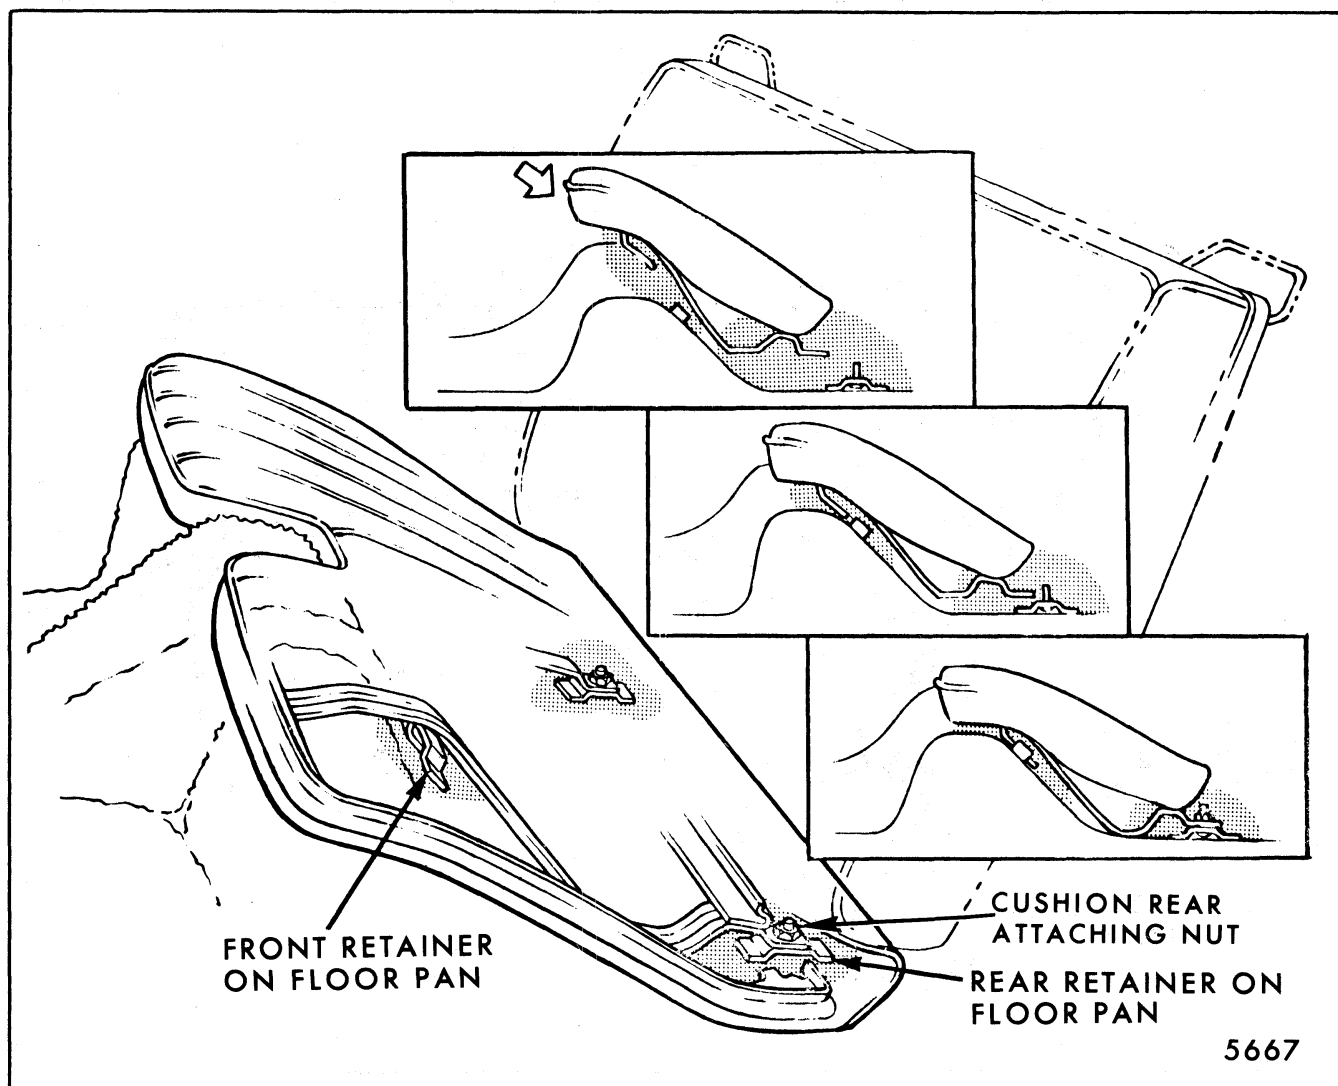

Fig. 9-102-Third Seat Cushion Installation - "B" Body Three-Seat Station Wagons
partial "up" position to provide access between cushion and back to cushion-to-floor pan rear attaching nuts (Fig. 9-102).
2. Remove cushion-to-floor pan rear attaching nuts (Fig. 9-102); then pull cushion forward and upward to disengage cushion front brackets from floor pan retainers (Fig. 9-102) and remove cushion assembly.
3. To install cushion assembly, reverse removal procedure (see insets in Fig. 9-102), make sure all seat brackets are engaged with retainers on floor pan.